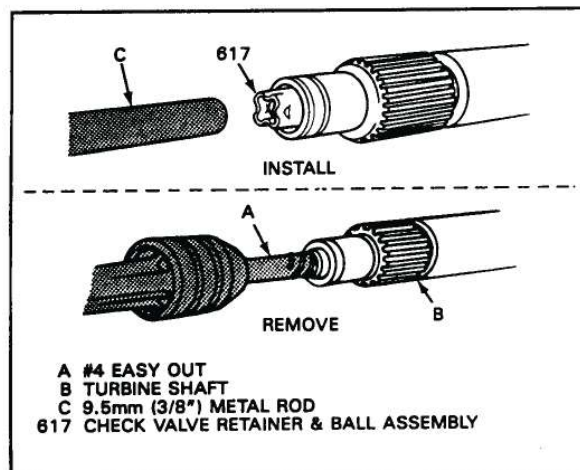

Figure 113
2. Remove the ball capsule retainer using a #4 screw extractor (See Figure 113).
5. Install the new ball capsule assembly using a 3/8\" drift punch and seat the retainer 1/8\" below the top surface of turbine shaft (See Figure 113).